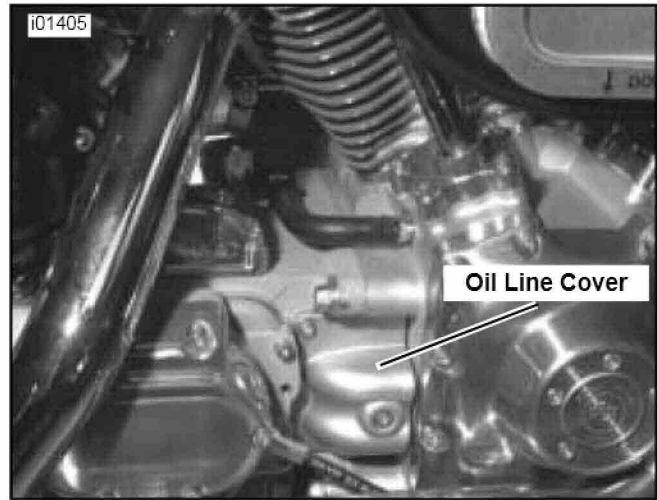

Figure 12. Oil Line Cover
1. See Figure 12. Remove oil line cover to access oil return hose.